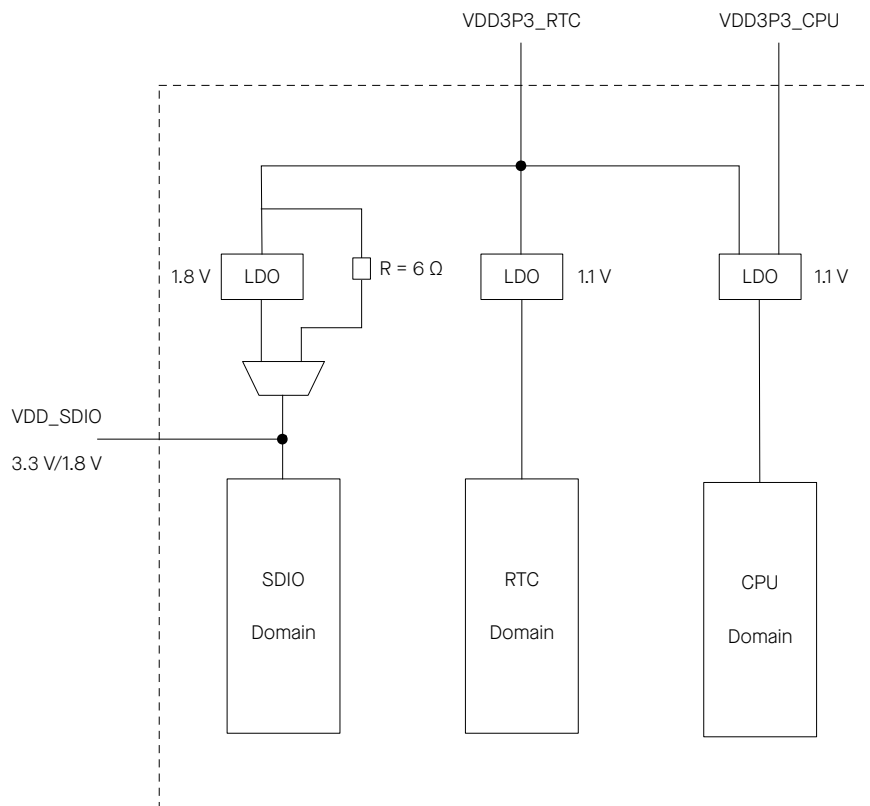

Figure 2-3. ESP32 Power Scheme
The power scheme is shown in Figure 2-3 ESP32 Power Scheme.
- As the in-package flash (ESP32-U4WDH) and the in-package PSRAM (ESP32-D0WDR2-V3) operate at 3.3 V, VDD_SDIO must be powered by VDD3P3_RTC via a 6 Ω resistor. See Figure 2-3 ESP32 Power Scheme.